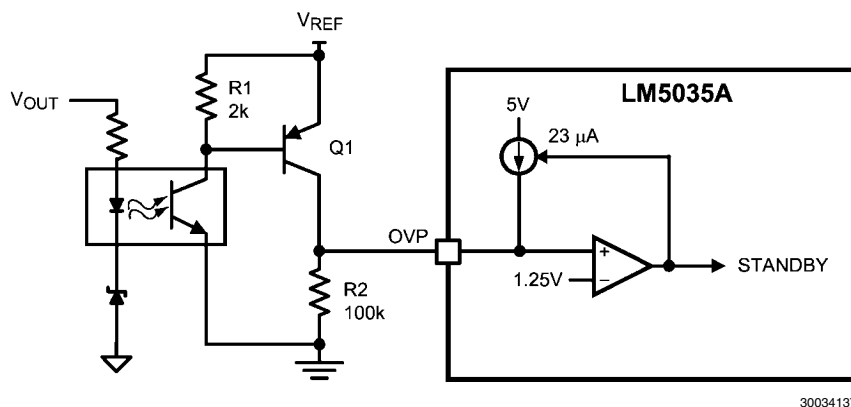

FIGURE 14. Latched Load Over-Voltage Protection
*Figure 14* demonstrates the use of the OVP pin for latched output over-voltage fault protection, using a zener and opto-coupler. When  $V_{OUT}$  exceeds the conduction threshold of the opto-coupler diode and zener, the opto-coupler momentarily turns on Q1 and the LM5035A enters standby mode, disabling the drivers and enabling the hysteresis current source on the OVP pin. Once the current source is enabled, the OVP voltage will remain at 2.3V ( $23 \mu A \times 100 k\Omega$ ) without additional drive from the external circuit. If the opto-coupler transistor emitter were directly connected to the OVP pin, then leakage current in the zener diode amplified by the opto-coupler's gain could falsely trip the protection latch. R1 and Q1 are added reduce the sensitivity to low level currents in the opto-coupler. Using the values of *Figure 14*, the opto-coupler collector current must equal  $V_{BE(Q1)} / R1 = 350 \mu A$  before OVP latches. Once the controller has switched to standby mode, the outputs no longer switch but the VCC and REF regulators continue functioning and supply bias to the external circuitry. VCC must fall below 6.2V or the UVLO pin must fall below 0.4V to clear the OVP latch.